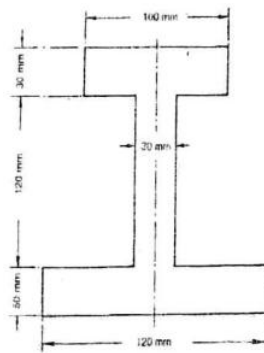

Fig. 6
4. (a) Sketch the Shear Force and Bending moment diagrams of a loaded beam as shown in Fig. 6. Also calculate the maximum bending moment and the point at which it occurs.